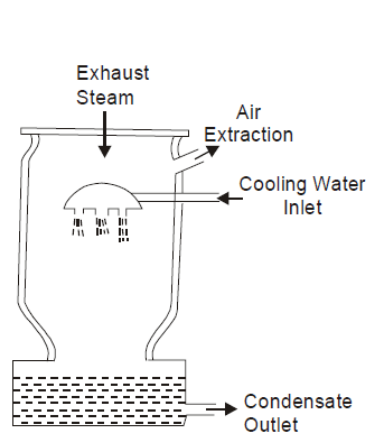

Fig. 1.13
1. Low level jet condensers (Parallel flow type). (Fig. 1.13)